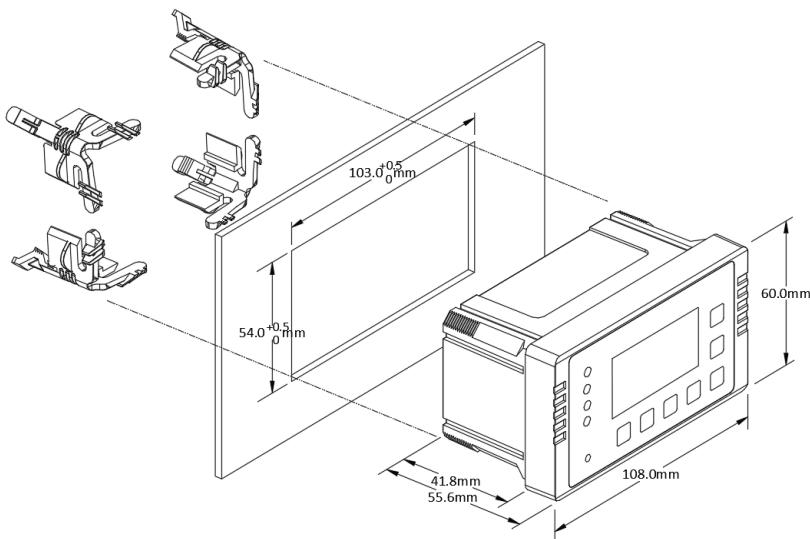

Figure 2-28 Panel Cutout Mounting for HMI Module
- Fit the meter through a 103mm x 54mm cutout, as shown in Figure 2-28.